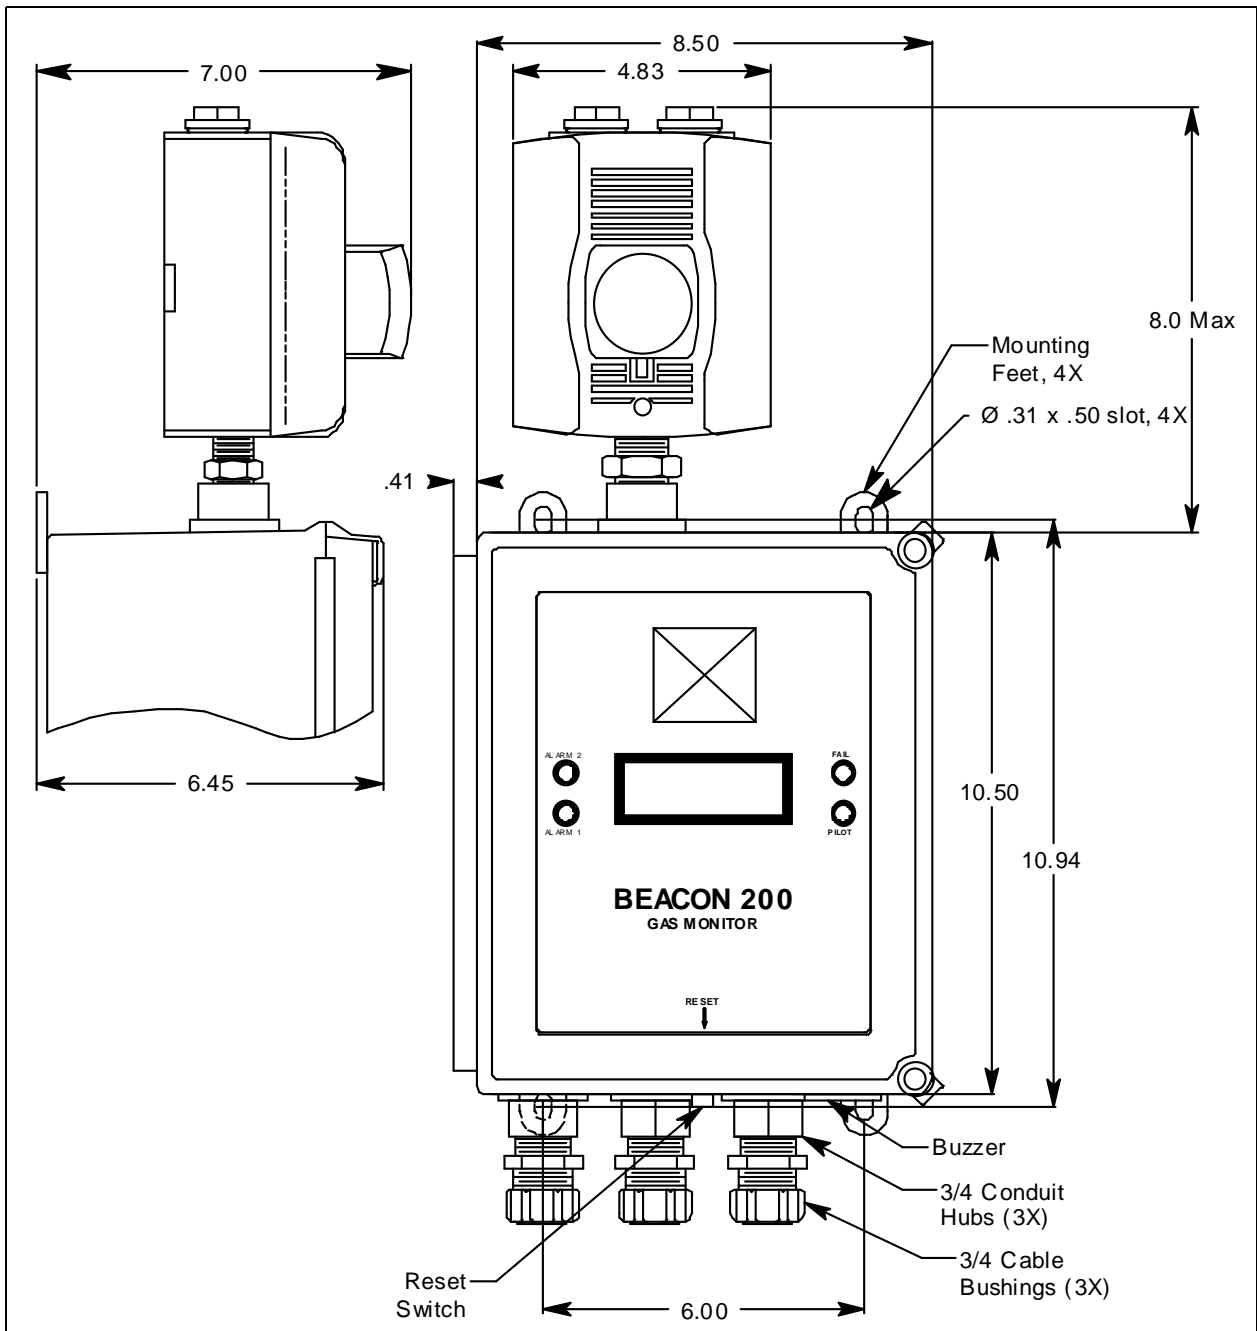

Figure 6. Beacon 200 Outline and Mounting Dimensions
4. The Beacon 200 is shipped with the mounting feet positioned behind the housing. Loosen the screws that secure the feet to the housing, rotate the feet to their mounting position (as shown in Figure 6), then tighten the screws.
5. Insert 1/4 in. or 5/16 in. screws through the slots in the mounting feet at each corner of the housing to secure the housing to the mounting surface (see Figure 6).